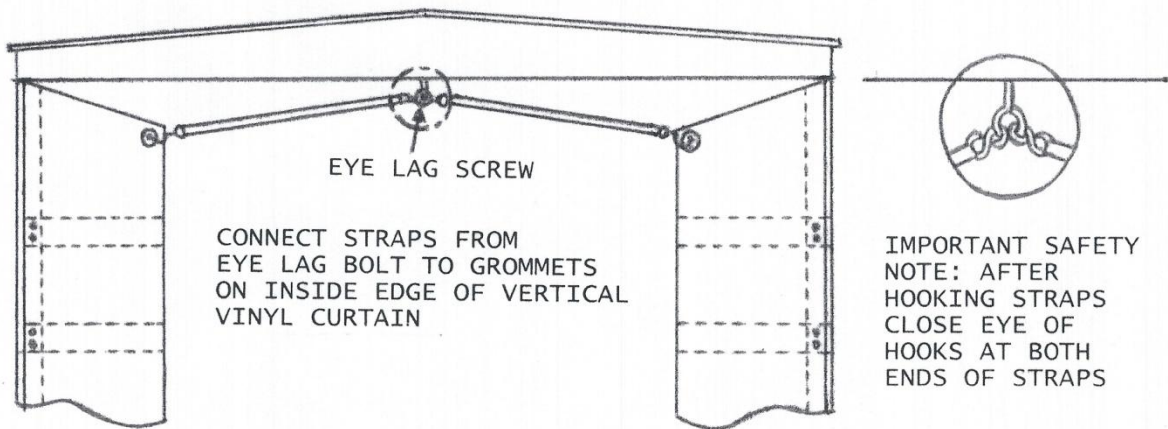

**FIGURE 6 – ATTACHING VINYL HEADER CURTAIN**
**(11) SLIP CARRIAGE BOLT THROUGH THE FARTHEST LEFT HOLE OF THE PREDRILLED HOLES IN THE HEADER CURTAIN (SEE FIGURE 6). THESE HOLES ARE THROUGH THE COVER AND THROUGH THE HOLE IN THE SPRING STEEL STAYS ALREADY INSERTED IN THE CURTAIN.**
**(12) LIFT THE HEADER CURTAIN UP AND TAP A CARRIAGE BOLT INTO THE FARTHEST LEFT PREDRILLED HOLE IN HEADER FRAME. PUT A WASHER AND NUT ON THIS BOLT, WHICH IS NOW PROTRUDING THROUGH FRONT HEAD FRAME BOARD. (THIS WILL LOCATE THE HEAD CURTAIN SO THE REST OF THE HOLES WILL LINE UP.)**
**(13) TAP IN THE OTHER SEVEN BOLTS AT TOP OF SPRING STEEL STAYS USE WASHERS AND NUTS PROVIDED TO SECURE CURTAIN TO FRAME.**